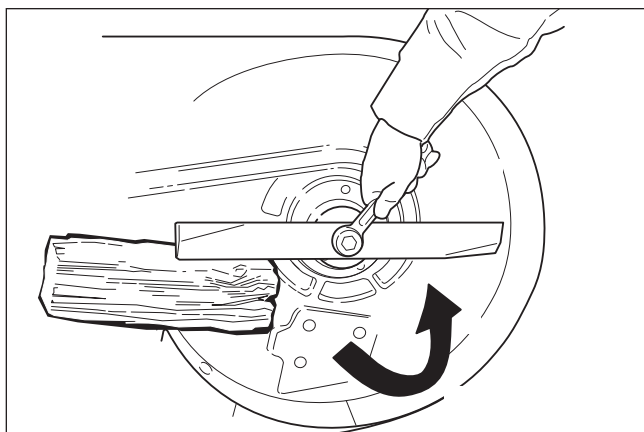

Figure 33. Loosening the Mower Blade for Removal
1. To remove the mower blade, wedge a wooden block between the mower blade and the mower deck housing to keep the blade from turning and remove the mower blade mounting bolt with a 15/16" wrench (Figure 33).